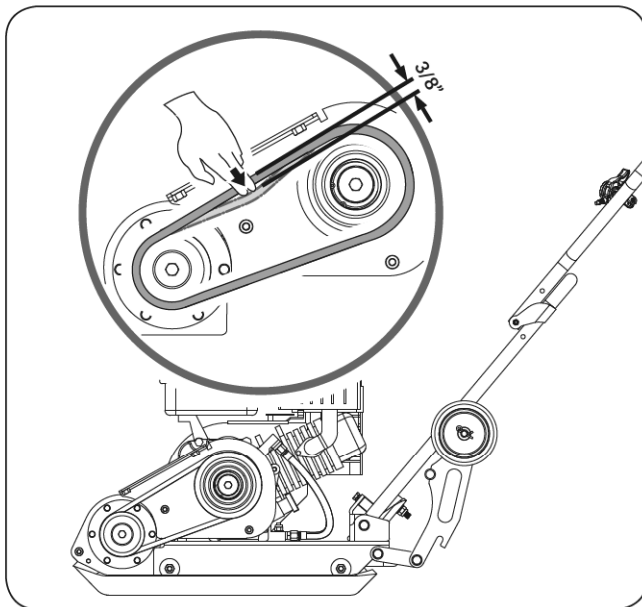

Figure 7b
4. Check the V-belt tension by squeezing them in the center. The normal deflection on each side should be 3/8"(9mm) to 1/2"(13mm) with moderate pressure from your thumb or finger. (See **Figure 7b**)
7. Move the engine back by turning the adjusting bolts A until reach the right belt tension, Refer to the **Figure 7b** to check the belt tension. Then lock the jam nut B.